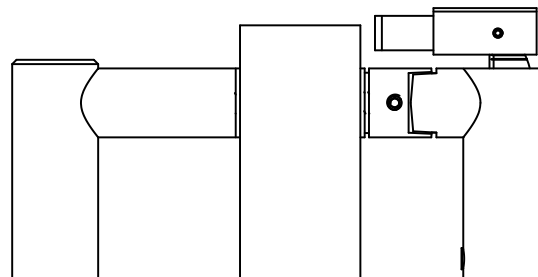

Figure 3-6
- Figure 3-6 is for the minimum height from the top of the Tube to the bottom of the Strike.